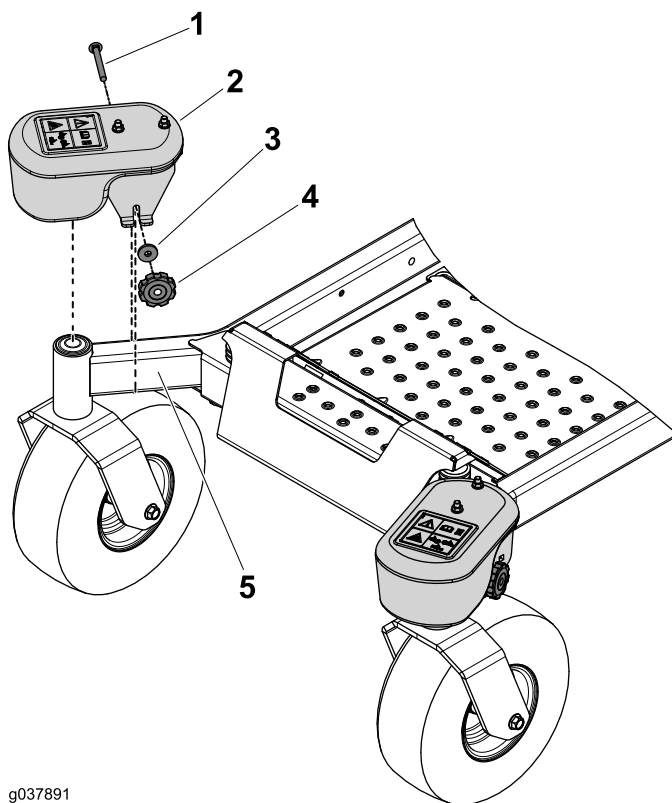

Figure 9
- Use the knob, washer, and carriage bolt (3/8 x 3-1/2 inch) to secure a caster weight to each caster arm (Figure 9).